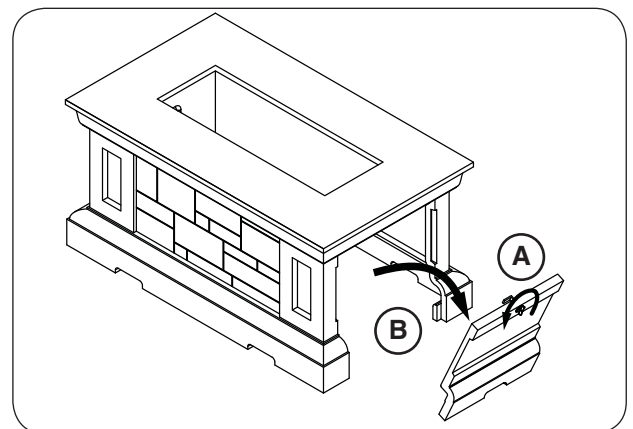

Fig. 21-2 Remove door
2. Remove the storage door by first turning the door handle counter-clockwise, then carefully pulling the door outward (see Fig. 21-2). Store in a safe location.